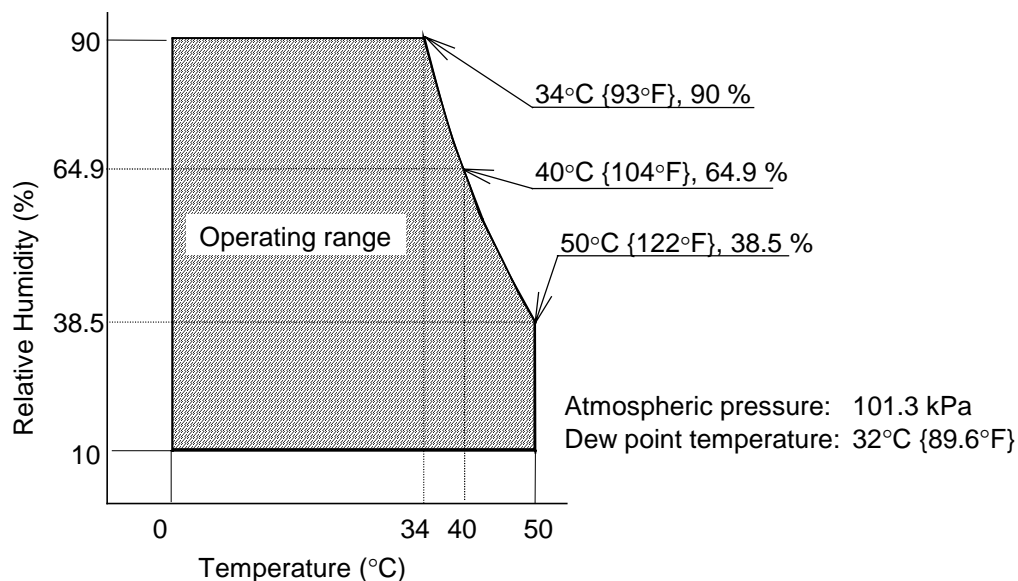

Figure 1.11.1 Environmental Conditions
- 2) Operating humidity: 10 to 90 % (non-condensing) (Refer to Figure 1.11.1)